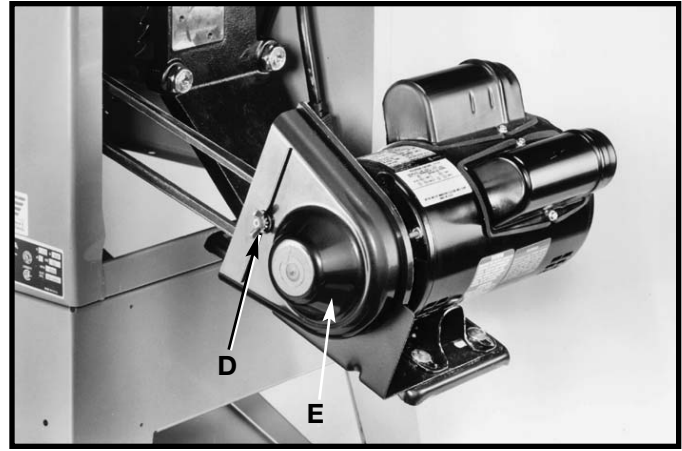

Fig. 21
9. Assemble the outer cover (E) Fig. 21, of the belt and pulley guard assembly, which was removed in **STEP 3**, and **fasten** with external tooth lockwasher and wing nut (D). **IMPORTANT:** Make certain the outer cover does not interfere with the drive belt and the motor pulley.